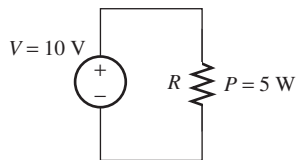

FIGURE P2.51 Circuit for Problem 2.51.
2.51 (A) Find the value of the resistance, R , in Figure P2.51.